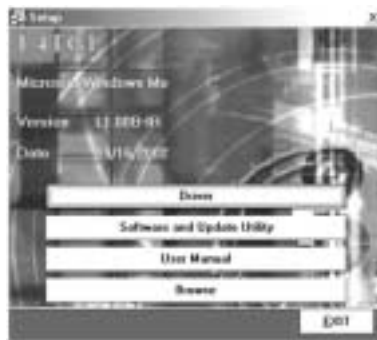

Figure 4.1
2. The Installation wizard will auto run and show the name of the main board on the upper left of the menu (See figure 4.1).
figure 4.1 sh
We also provide you some very useful utilities to enhance the experience of your computer. Just like installing drivers for your computer, you can follow the steps for installing driver until the menu of figure 4.1 shows up. Then, please go through the following steps.